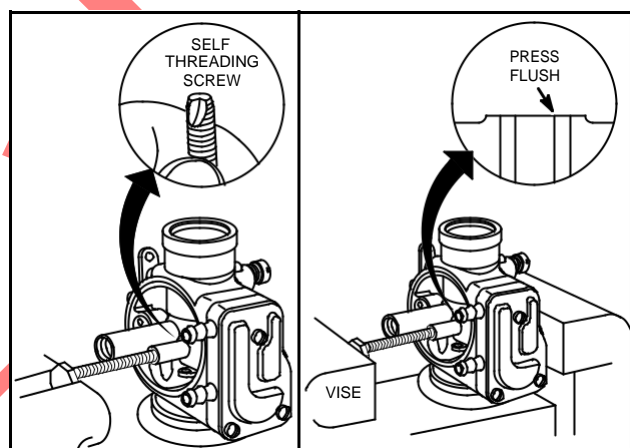

Fig. 287 - REPLACING FLOAT VALVE SEAT
2. Turn carburetor body to thread screw into inlet seat, Fig. 287.
5. Press new inlet seat flush with body using screw and old seat as a driver, Fig. 287. Use care to ensure seat is not pressed below body surface or improper float to float needle valve contact will occur.